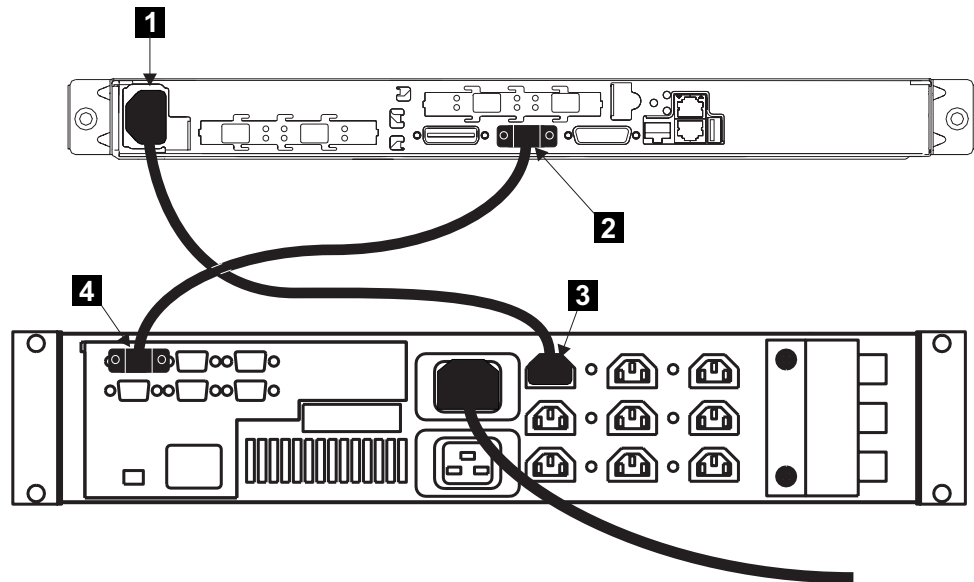

Figure 33. Connecting the SAN Volume Controller power cable to the uninterruptible power supply
1. At the back of the SAN Volume Controller, plug a power cable into the socket **1** (see Figure 33 on page 35).